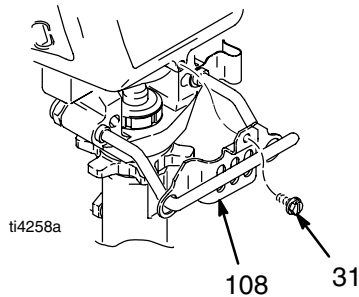

Fig. 8
1. Flush pump (13).
3. Fig. 8. Remove screw (31) and slide pump rod shield (108) forward.
7. Fig. 8. Install pump rod shield (108) with screw (31).